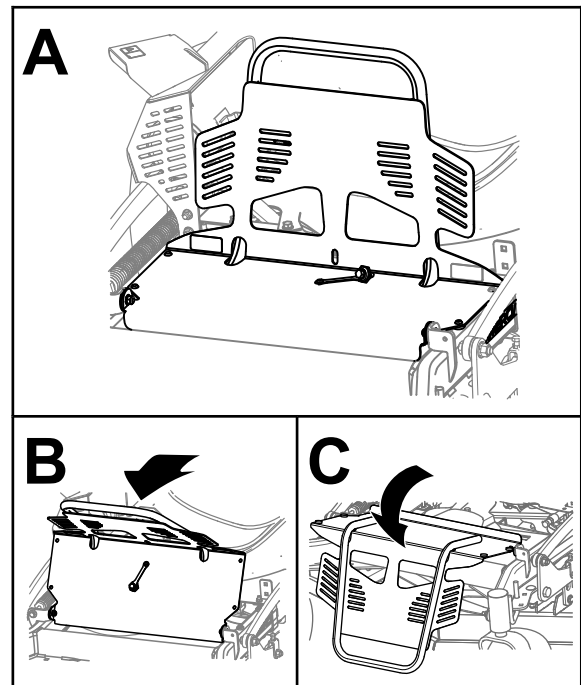

Figure 30
2. Rotate the engine guard forward as shown in Figure 30.